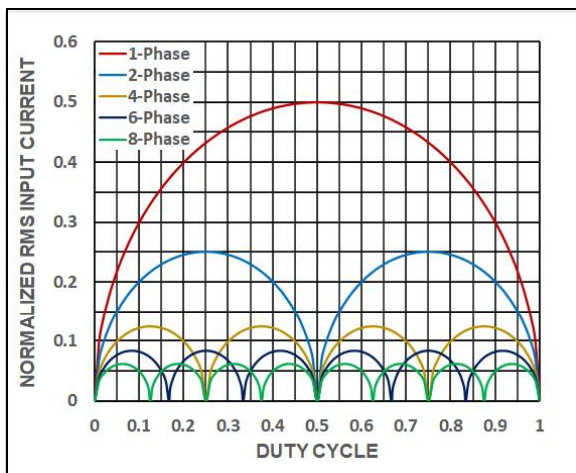

FIGURE 5-2: Normalized RMS Input Capacitor Current vs. Duty Cycle.
The graph in Figure 5-2 shows the normalized RMS input capacitor current vs. duty cycle for single-phase, two-phase, four-phase, six-phase and eight-phase buck converter operation. Data are normalized to the output current.
For a given multiphase buck converter operating at duty cycle D , the input capacitor RMS current can also be determined from the graph in Figure 5-2, together with Equation 5-20 below.
- $I_{CINRMS(NORM)}$ = Normalized RMS Input Capacitor Current at given Duty Cycle for Given Multi-Phase Buck Converter from Figure 5-2